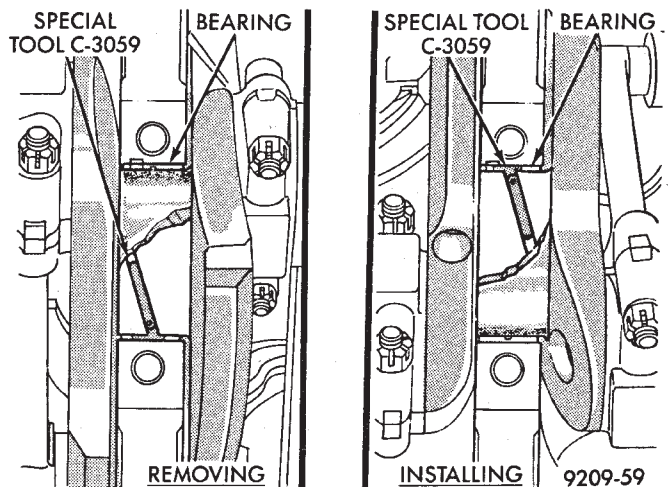

Fig. 3 Removing and Installing Upper Main Bearing With Special Tool C-3059
(1) Remove oil pan and identify bearing caps before removal.
(2) Remove bearing caps one at a time. Remove upper half of bearing by inserting Special Main Bearing Tool C-3059. (Fig. 3) into the oil hole of crankshaft.
(3) Slowly rotate crankshaft clockwise, forcing out upper half of bearing shell.
(1) Start bearing in place, and insert Main Bearing Tool C-3059 into oil hole of crankshaft (Fig. 3).
(2) Slowly rotate crankshaft counter-clockwise sliding the bearing into position. Remove Special Main Bearing Tool C-3059.
(3) Install each main cap and tighten bolts finger tight.
(4) Tighten number 1, 3 and 4 main cap bolts to 41 N•m + 1/4 Turn (30 ft. lbs. + 1/4 Turn).
(5) Rotate the crankshaft until number 6 piston is at TDC.
(6) To ensure correct thrust bearing alignment the following procedure must be done: